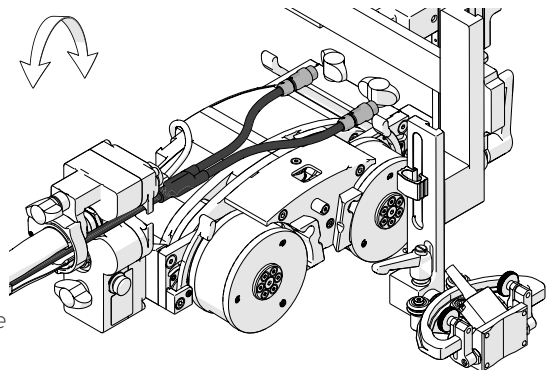

Fig. 193 - Route the 3-axis encoder cable through the cable management
11. Route the 3-axis encoder cable (Fig. 193) through the cable management (see "Cable Management" on page 122).